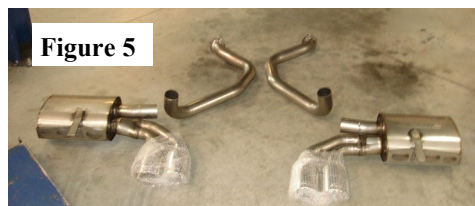

Figure 5
1. Orient components on floor referencing page-2 drawing. (See fig.5)